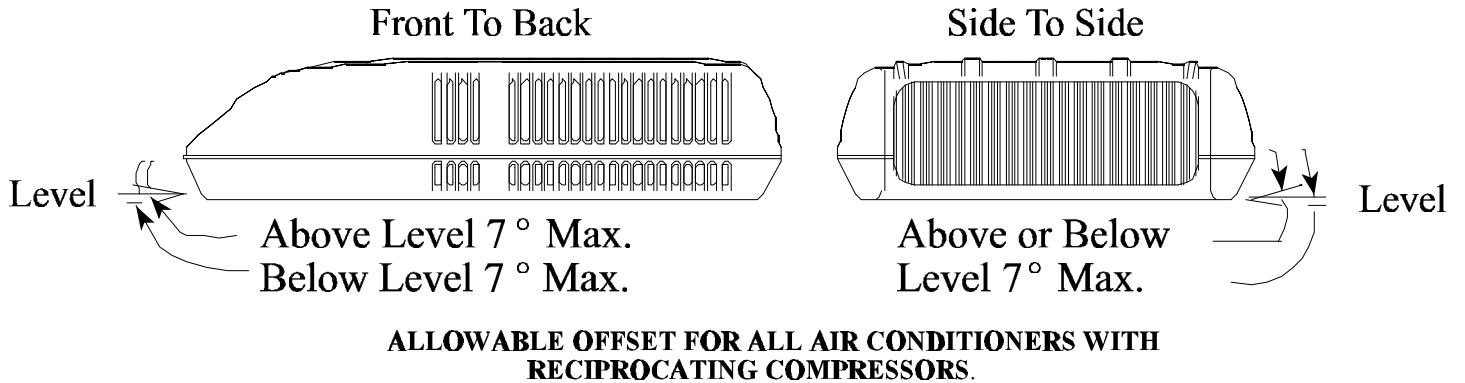

FIGURE 3
D. The roof top air conditioner must be mounted as near level from front to rear and side to side as is possible when the vehicle is parked on a level plane. Figures 3 and 4 show maximum allowable degree deviations (mounting degrees from total surface flat plane).